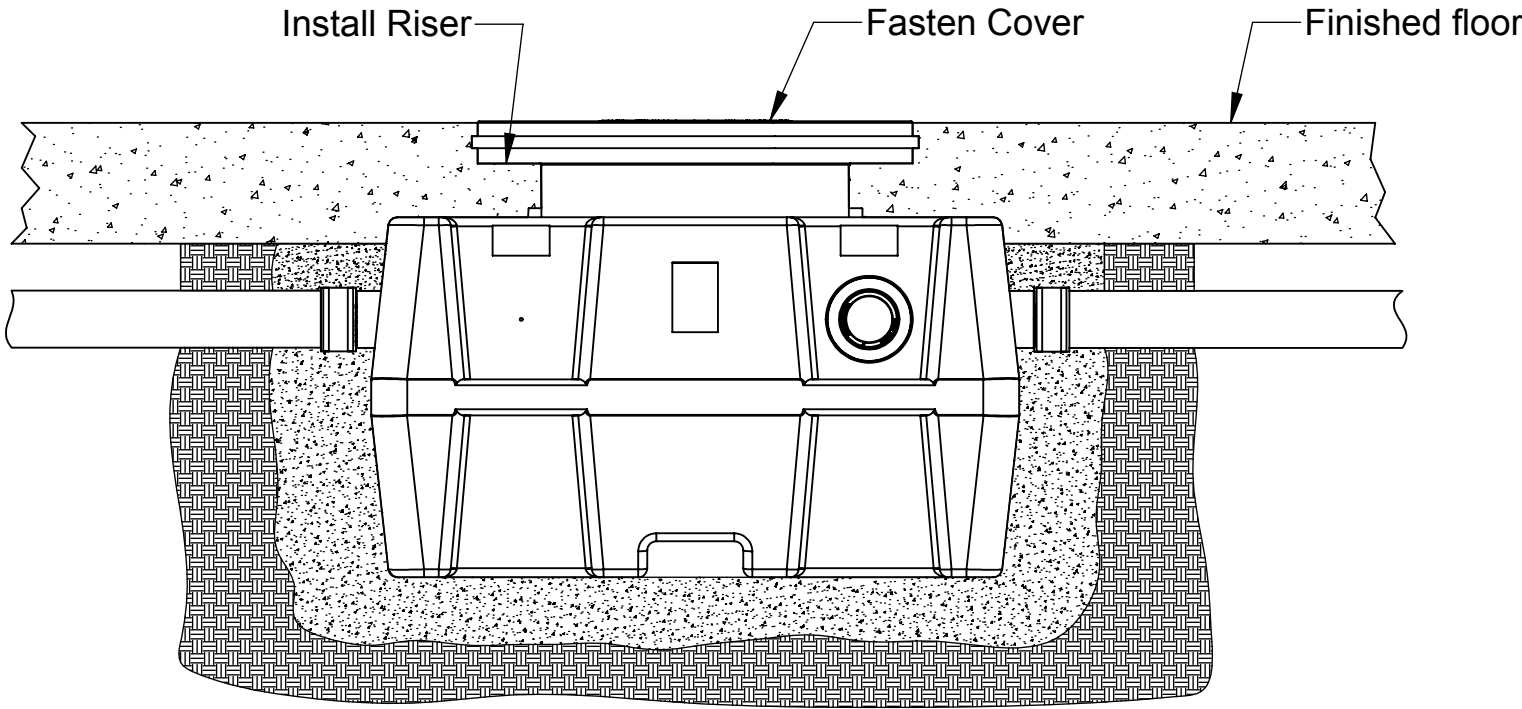

Figure 4
7. Place cut riser back into ring on unit until it stops. Fasten cover from unit into riser with the same 4 bolts from the unit. Unit is ready to be water tested and backfilled. Install finished floor. See Figure 4.